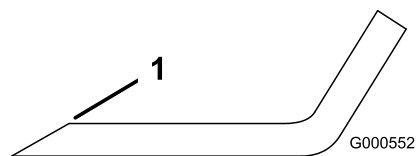

Figure 63
1. Use a file to sharpen the cutting edge at both ends of the blade (Figure 63).
Note: If the blade is not balanced, file some metal off the end of the sail area only (Figure 63).